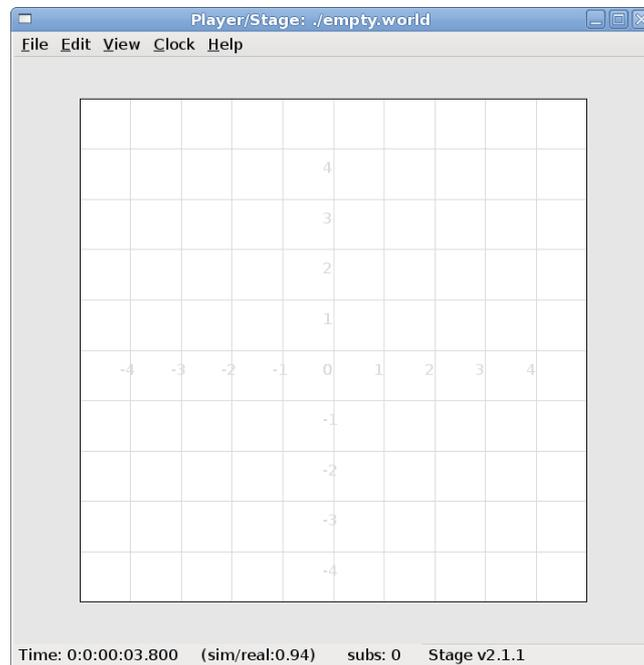

Figure 5: An empty map with gui_grid enabled. With gui_grid disabled this would just be an empty white square.
- `gui_grid`: this will superimpose a grid over the model. Figure 5 shows a map with a grid.